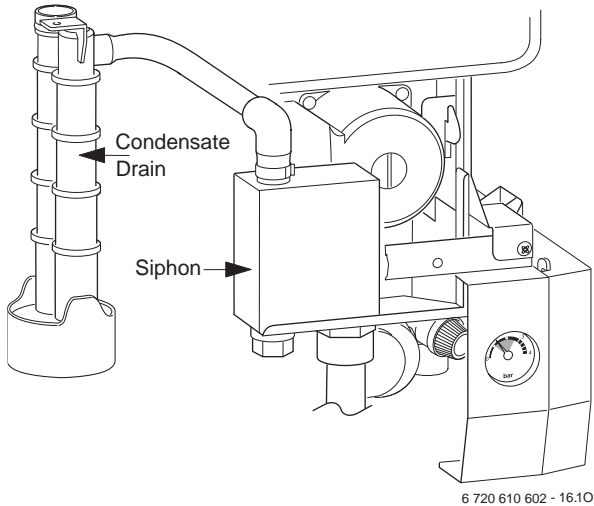

Fig. 54
- ▶ Unscrew and remove the siphon by releasing the jubilee clip. Refer to fig. 54.